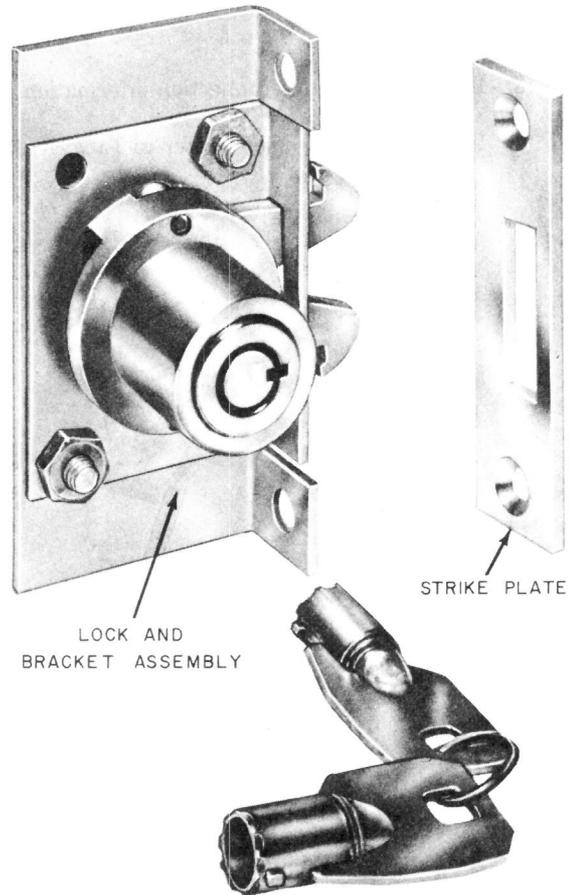

Fig. 9—D-180382 Kit of Parts
- 3.11** Install the mechanical door lock (D-180382 Kit of Parts, Fig. 9) in the 526-type telephone sets as follows: